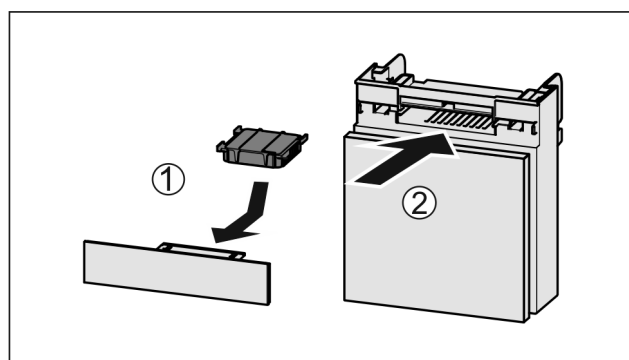

Fig. 246
- ▶ Insert the carbon filter as shown in the diagram Fig. 246 (1).
- ▶ Push the compartment in Fig. 246 (2).